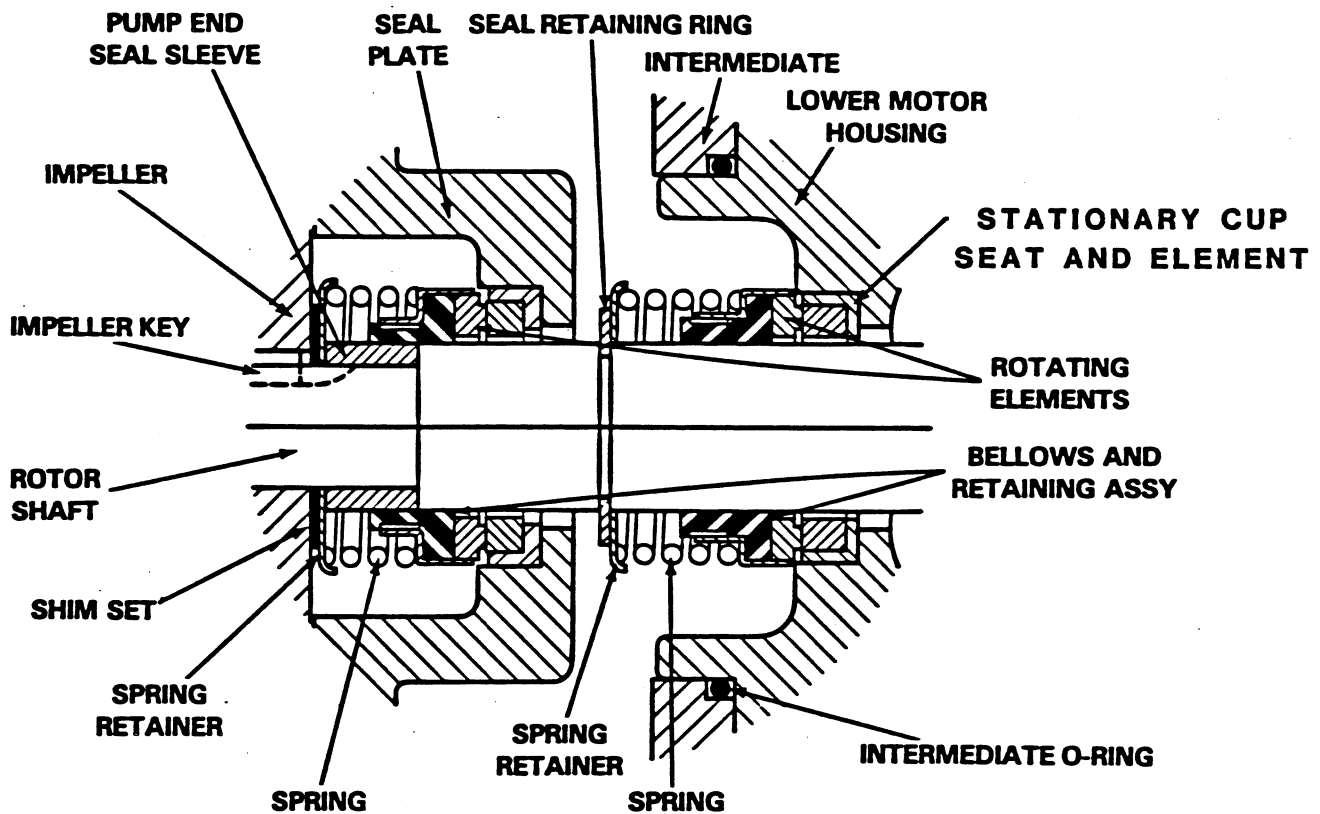

Figure 3. Seal Assemblies 46512-057 and S01832
Install the shaft seals as illustrated in Figure 3.
Slide the seal spring over the bellows retainer, and install the spring retainer. Install the seal retaining ring (77). See Figure 3 for proper order of seal assembly.
Slide the seal spring over the bellows retainer, and install the spring retainer. See Figure 3 for proper order of seal assembly.